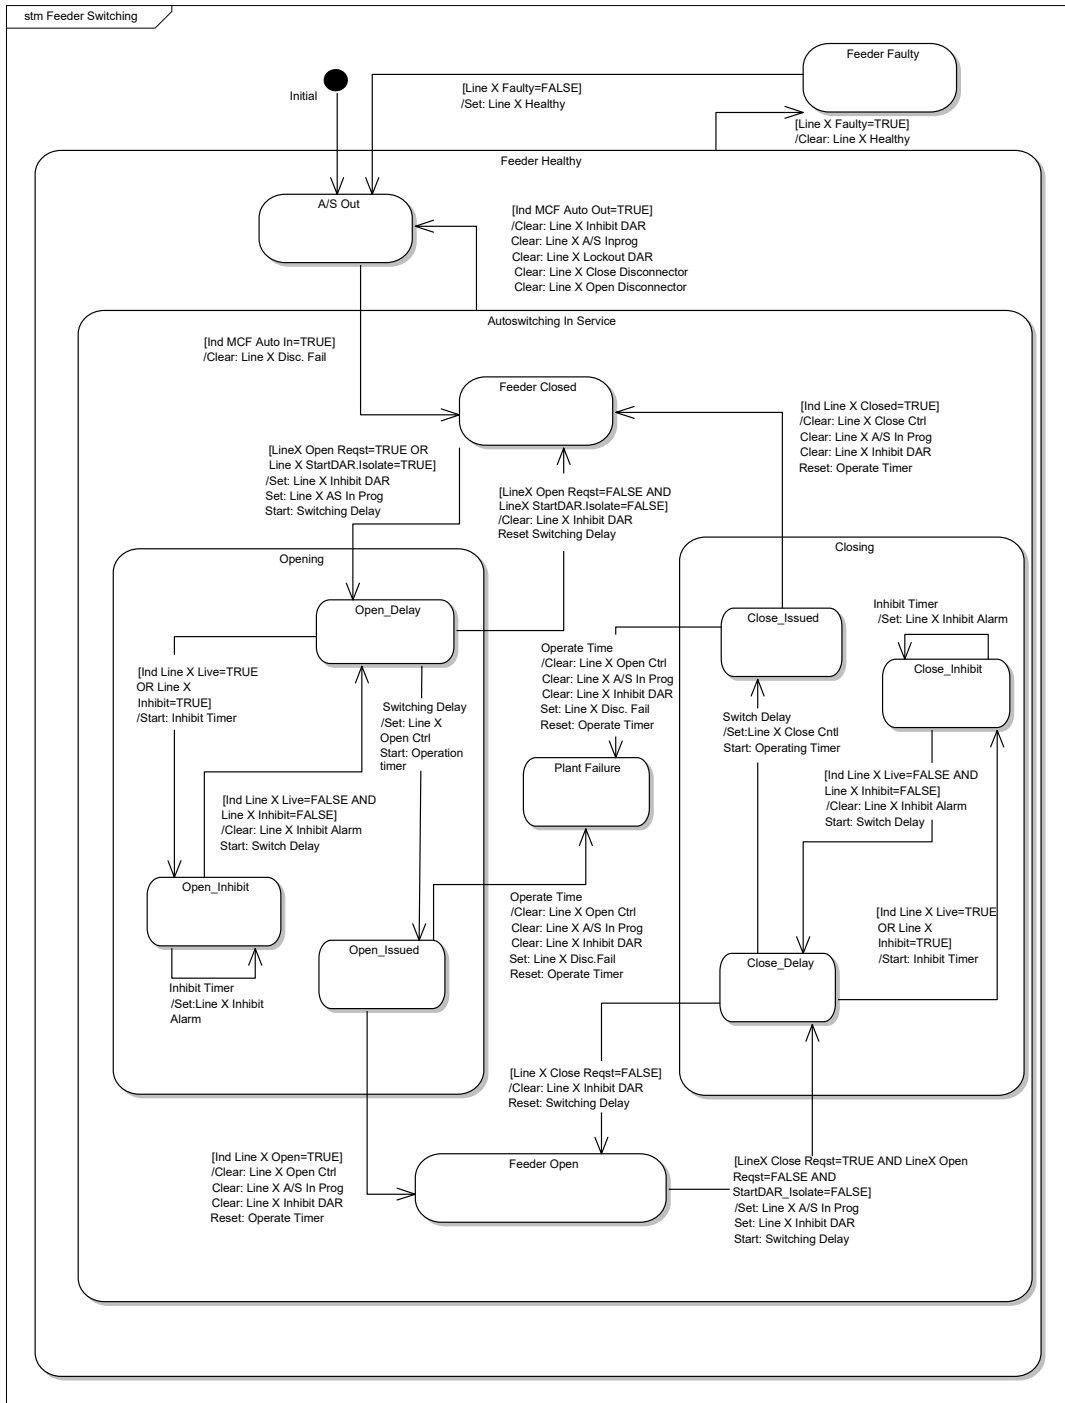

Figure 11: Feeder function disconnector switching- state chart
- Figure 11: Feeder Auto-Switching: Manages the switching logic for the disconnector